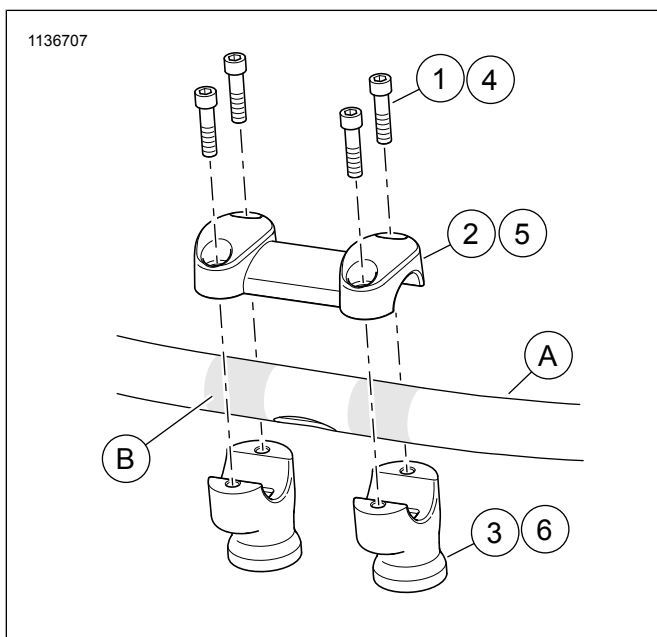

Figure 1.
See Figure 1 and Table 1.
1. See Figure 1. Install the handlebar risers (3 or 6). See service manual.